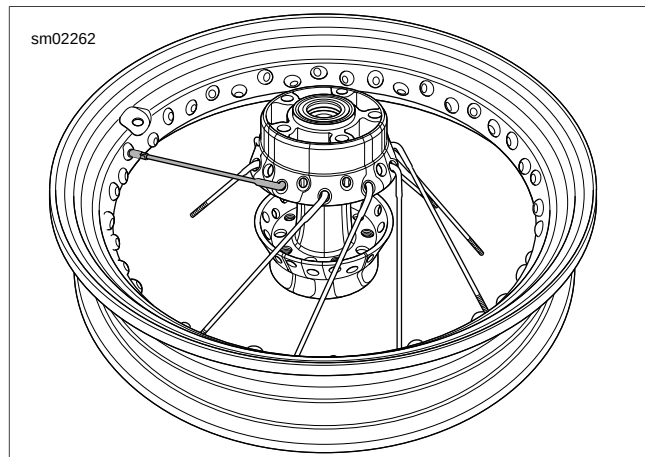

Figure 2-23. Brake Side Up: Start First Spoke of Bottom Row
- See Figure 2-23. Center rim over hub assembly with valve stem hole facing upward.